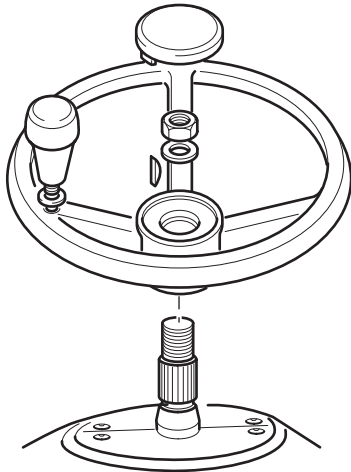

Fig 4.
- 1 Remove the steering wheel. → Fig 4. (B5-7).